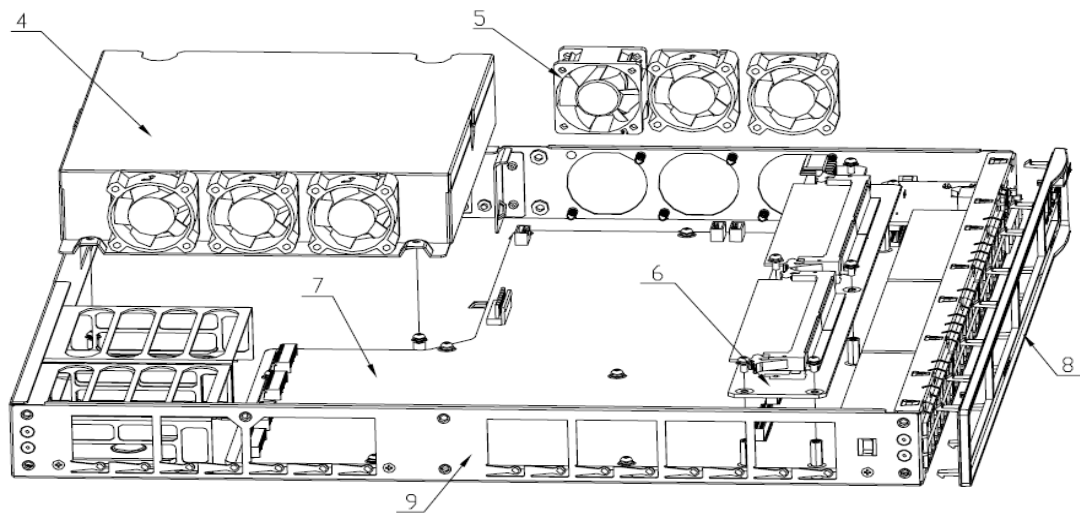

Figure 4 Treatments to the product (remove cover)
4. Unscrew the screws on cover 3, and then remove cover 3 according to figure 4.